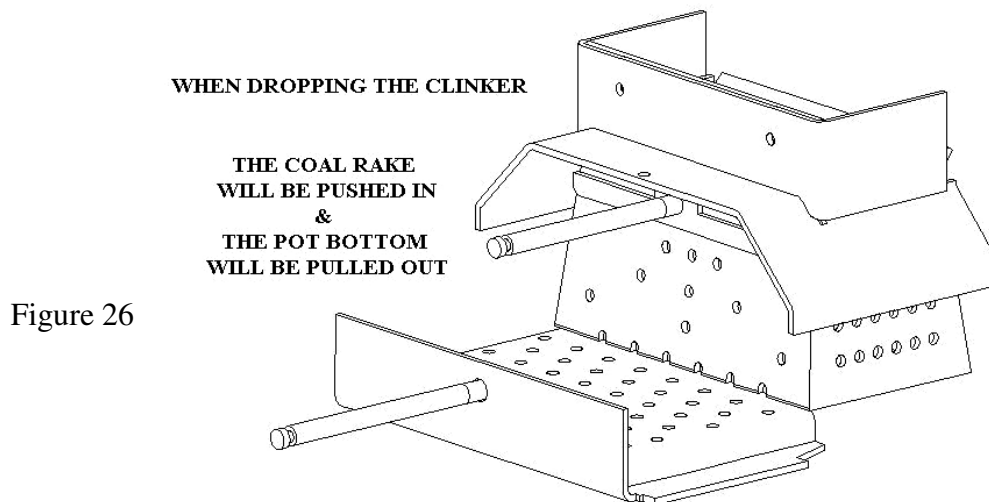

Figure 26
3. **The Slide-Out Bottom.** (See figure 26) Now you are ready to drop the clinker from the burn pot. Pull the bottom out in one quick motion and let the clinker drop into the ash pan. Quickly push the bottom in again. To pull out the slide bottom use the Rod Handle tool that came with the unit.